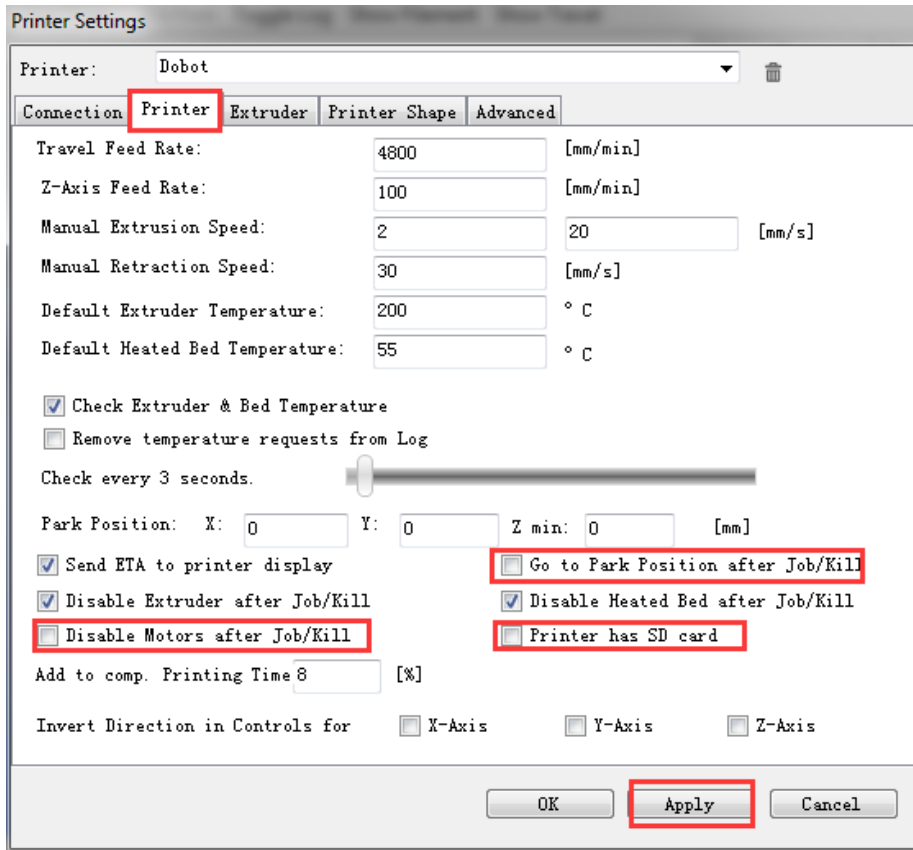

Figure 5.130 Unselect options
4. Unselect the corresponding options on the **Printer** tab as shown in the red box of, Figure 5.130 and the other parameters are set by default. Then, click **Apply**.